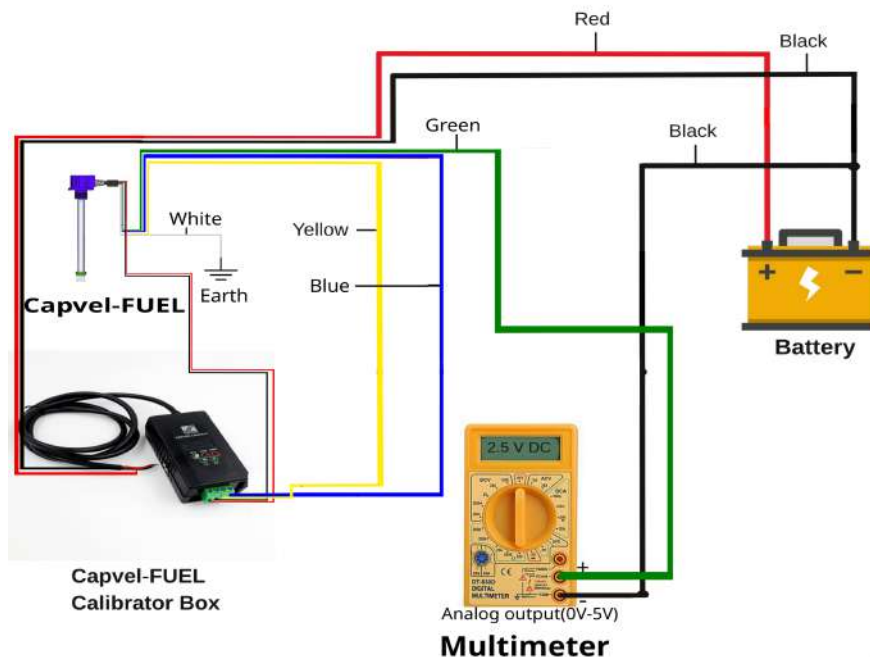

Figure 18: Connection Diagram for Calibration
Figure 18 describes the connection details for connecting Capvel-FUEL with the battery, the Calibrator box and the fuel gauge meter.
- Connect the +V(Red wire) of Capvel-FUEL to '+ve' terminal of battery/DC adapter. Connect the Gnd(Black wire) of Capvel-FUEL to '-ve' terminal of battery/DC adapter. Refer to Figure 18.
- Connect yellow wire(A) of Capvel-FUEL sensor to the Terminal(A) of the Calibrator Box.
- Connect blue wire(B) of Capvel-FUEL sensor to the Terminal(B) of the Calibrator box.
Electrical connections for the instrument will change with the models. Please refer to Figure 18 and precautions mentioned below before connecting the device.